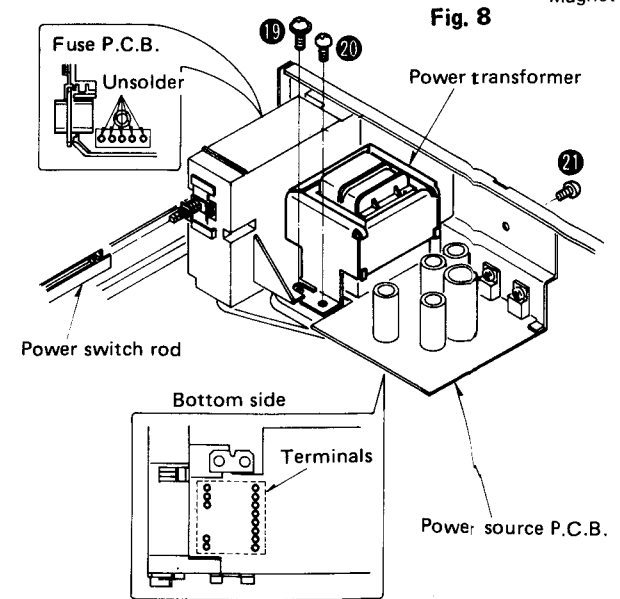

Fig. 9
4. Remove the 3 setscrews [Fig. 9 : ⑲ ~ ⑳] of the power transformer and take the power transformer block out of the chassis.